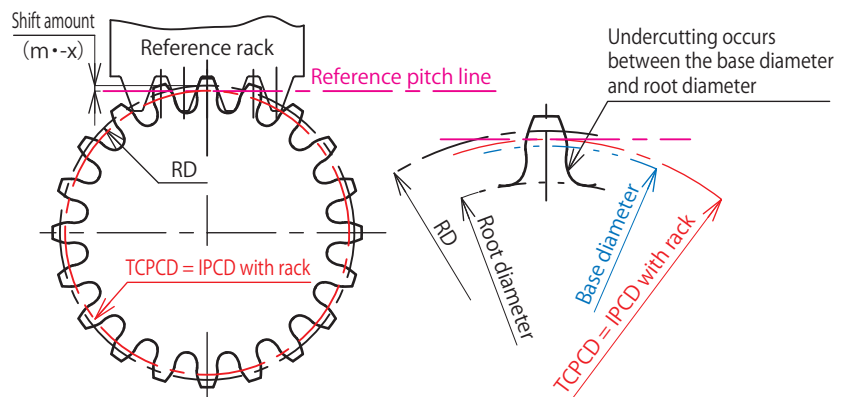

Fig. 3 Tooth profile with a negative (-) rack shift coefficient ( $x$ )
Positional relationship between the tooth cutter and gear tooth cutting position (See Fig. 3.)
- (1) Profile-shifted gears are used to prevent or reduce undercutting. When the root diameter is smaller than the base diameter, profile-shifted gears tend to have smaller tooth root strength (see Fig. 3). This phenomenon appears more remarkably with fewer teeth.
- (2) The contact distance can be adjusted.
- (3) Profile-shifted gears are also used to decrease the gear strength or reduce the meshing noise by adjusting the contact ratio.